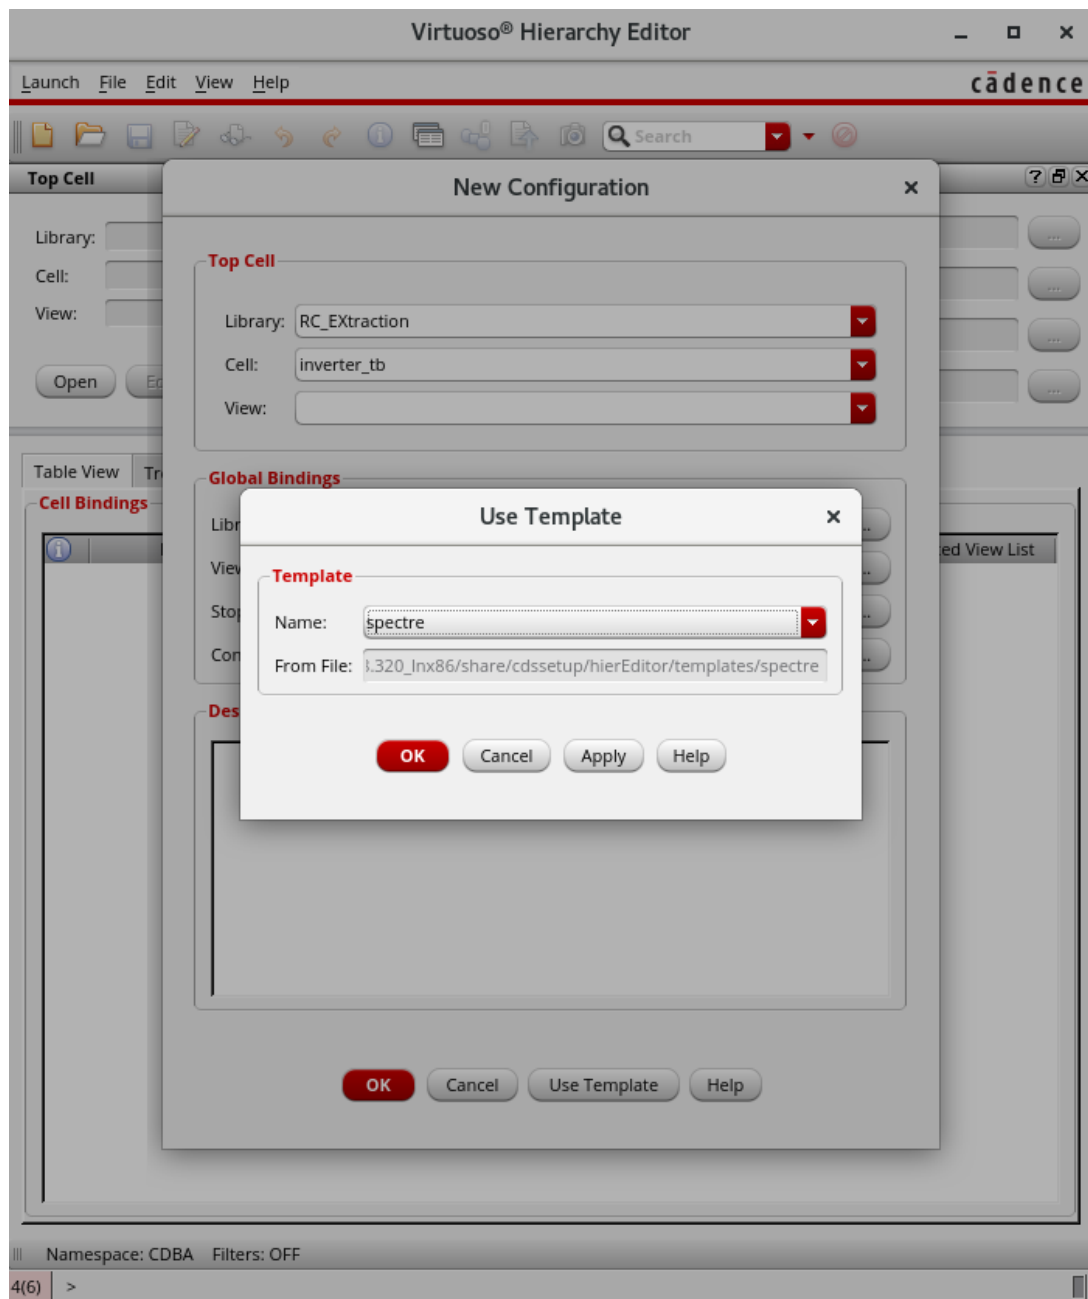

Figure 15: Selecting the Spectre template for the configuration.
1. Press the **Use Template** button (Figure 15).